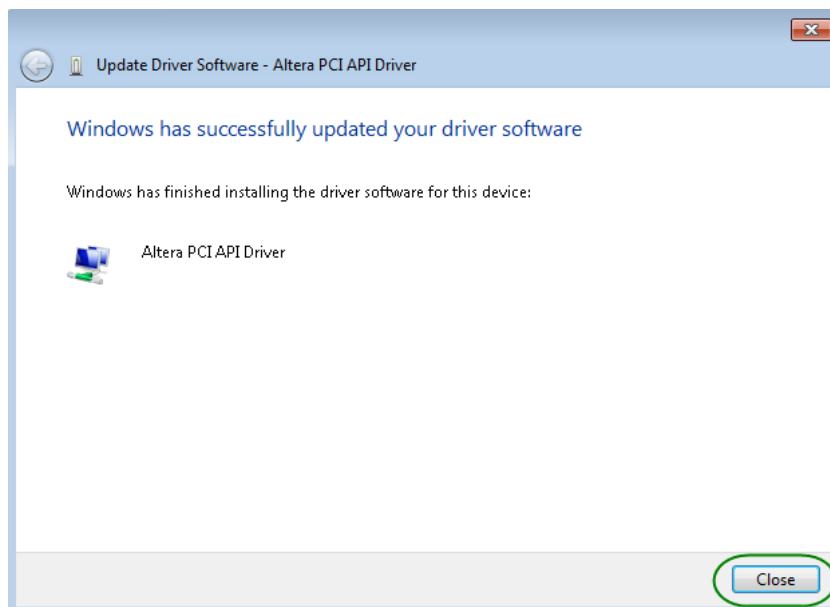

Figure 7-7 Click Close when the installation of the Altera PCI API Driver is complete
- When the driver is installed successfully, the successfully dialog will appear, as shown in **Figure 7-7**. Click the **Close** button.